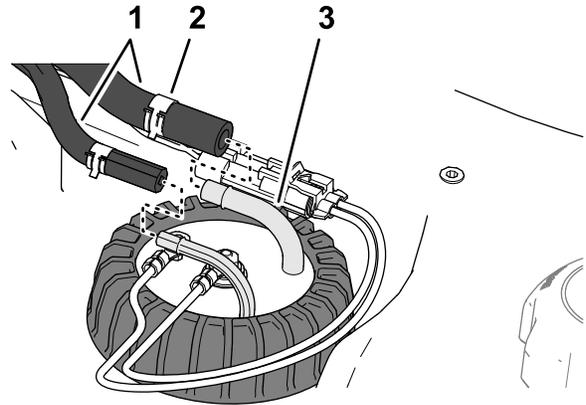

Figure 93
4. Move the clamps that secure the hoses to the fittings of the fuel sender inboard, and remove the hoses from the fittings (Figure 93).